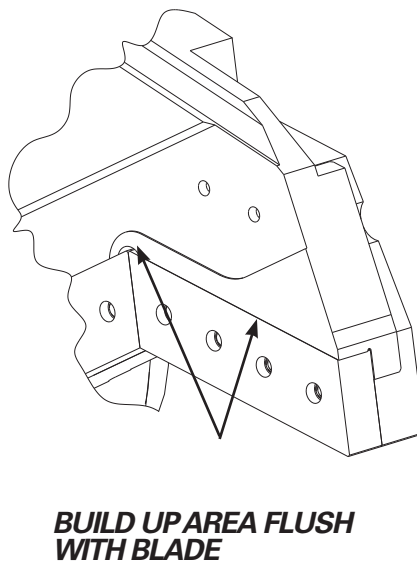

FIGURE 5-24
3. If necessary, build-up along the top and front edges of the secondary blade seat flush with the blade (see **Figure 5-24**). The blade should not stick out beyond the edge of the seat in this area.